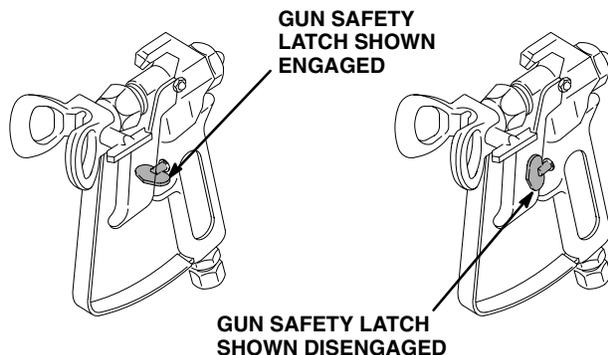

Fig. 4
- b. Disengage the gun safety latch. See Fig. 4. Following the warning, above, trigger the gun until all air is forced out of the system and the paint flows freely from the gun.
6. **Install the spray tip and tip guard.** Engage the gun safety latch. See Fig. 4. Install the spray tip according to the instructions supplied with it.